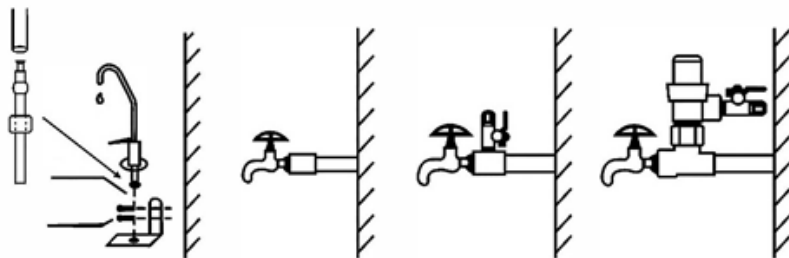
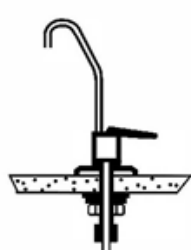

Fig. 1 Tap on wall using bracket
Fig. 2 Tap on counter-top
Tap can be installed either attached to a wall (Fig.1) or on a counter-top (Fig. 2)
1. Determine location for tap, cut tubing to length (see fig.1 and 2) and install tap using the diagram below or using white fitting provided: